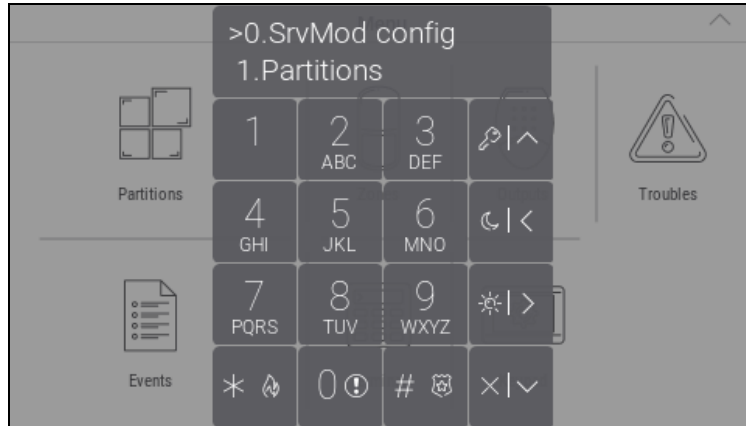

Fig. 16. Terminal displaying the service menu.
6. Tap    . The service menu will be displayed (Fig. 16).